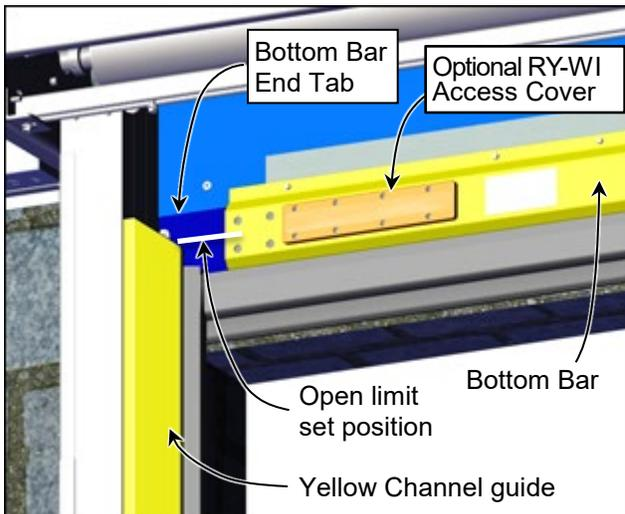

Figure 29
When the door is knocked out of position, the System 4 Drive & Control takes over and will raise the tabs high enough to be reinserted into the side columns. The open-limit position should be set so that the middle of the bottom bar is located at the bottom edge of the 45-degree slope on the front yellow channel guides of each side column. (See Figure 29)
1. To inspect and adjust the switch, remove the access cover from the wireless enclosure assembly on the face of the bottom bar assembly. (See Figure 29)